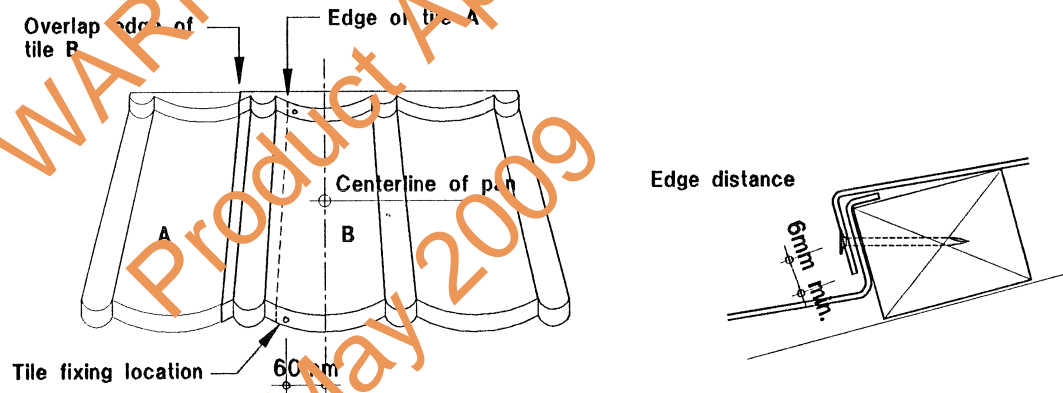
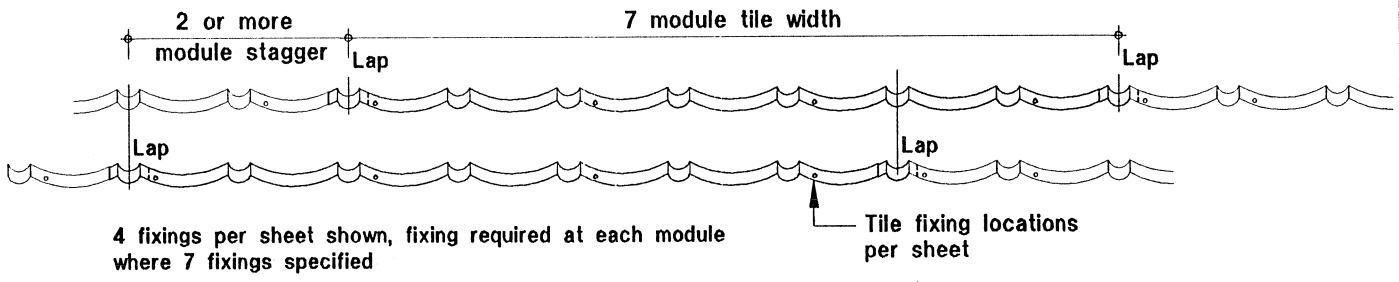

Figure 3
Figure 4
Nails used on all Savanna Colortile Roofing Systems should be 50mm x 2.8 mm flathead nails galvanised and painted. Nailing details are shown in Figures 3 and 4. Where 7 nails per tile are required, nail every module. Where 4 nails per tile are required, nail every second module (as shown in Figure 4). Begin nailing at the overlap end (as shown tile B, Figure 3).
2. All nail positions should be in the same relationship to tile module shape and batten location as shown in Figures 3 and 4